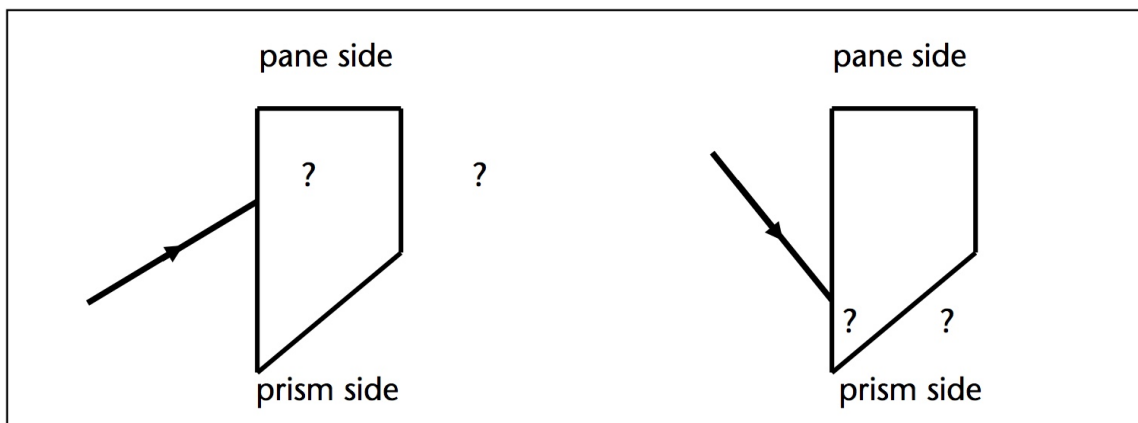

Figure 2
- Use the block of clear acrylic (Figure 2) from the ray optics kit box to study what happens to light rays when they go through a sheet of acrylic or glass, such as a window pane.